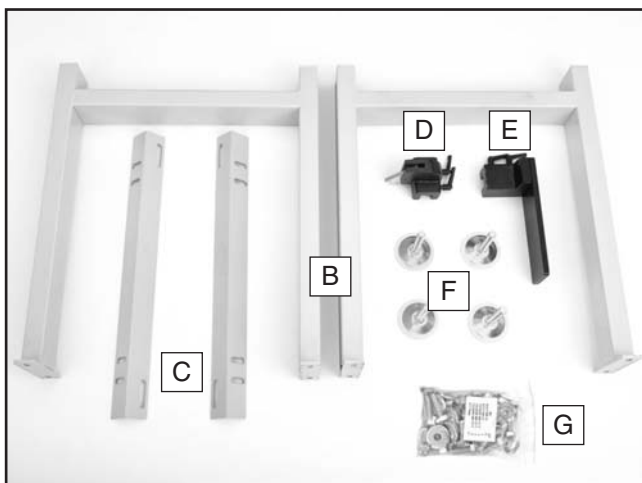

Figure 3. Roller table legs, brackets, feet, stops, and hardware bag.
Use **Figures 3–6** and the list below to inventory the contents of your shipment. If you have any questions, please call our customer service at (570) 546-9663.